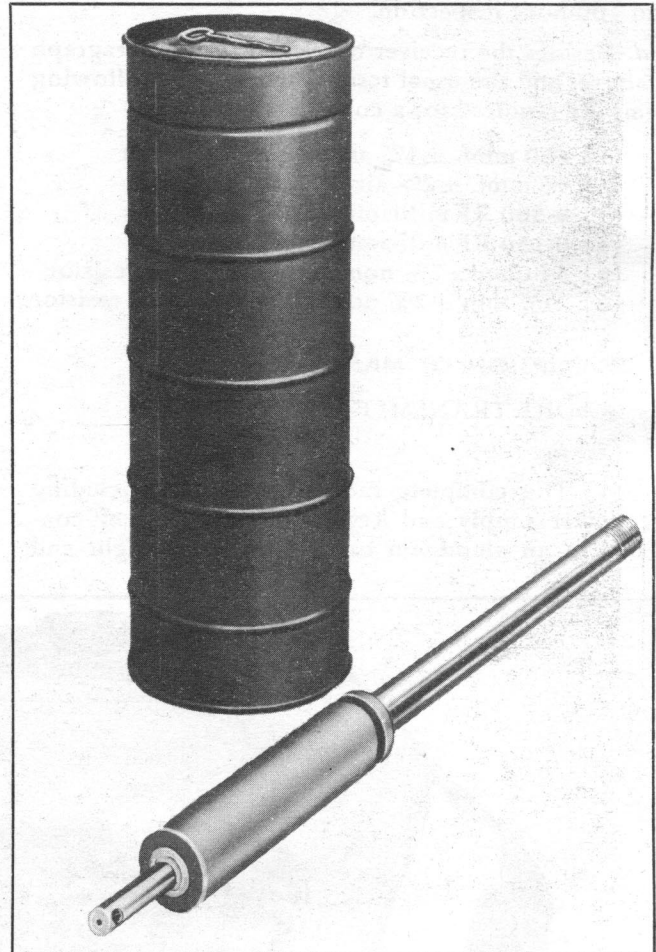

Figure 1-5. Generator M-315-B
d. GENERATOR M-315-B.—This hydrogen generator (see fig. 1-5) is used to inflate the balloon. It consists of a large container opened at both ends by keys, and an inflating tube. Upon coming in contact with water, lithium hydride within the container generates hydrogen. The inflating tube serves as a handle to hold the container in the water and passes